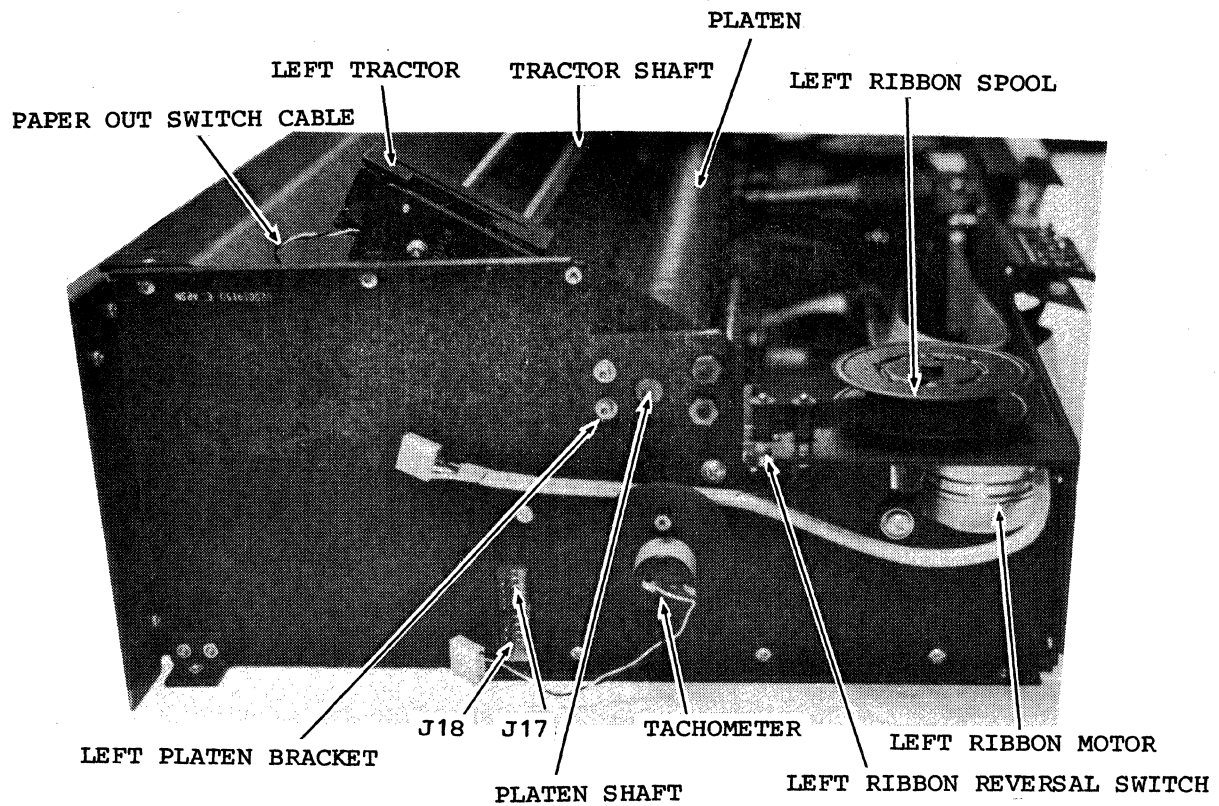

Figure 6-6. Chassis, Left Side View
The servo motor, disc sensor, and lead screw are removed or replaced as an assembly. The replacement procedure is as follows (see Figures 6-6 and 6-7):
- (B) Remove the top cover from the printer.
- (d) Unplug P18 and remove the tachometer by pulling straight out. The tachometer shaft could break inside the lead screw if this instruction is not carefully followed (see Figure 6-6).
To replace the tractor drive belt, perform the following procedures (Figures 6-6 and 6-7):
To replace a defective ribbon motor, perform the following procedures (Figures 6-6 and 6-7):